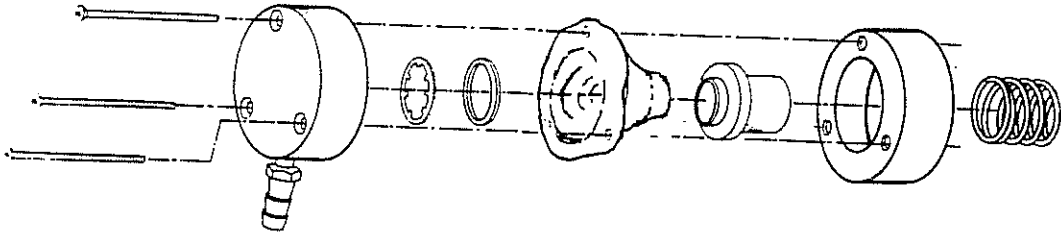

FIGURE 5.3 OXYGEN INPUT VALVE ASSEMBLY
1. Refer to Figure 5.3 and remove the three screws which hold the Input Valve to the Air Intake Filter Cover.
2. Replace the Filter Cartridge (Part No. 68 130 67) and reassemble the Oxygen Input Valve as shown in Figure 5.3.